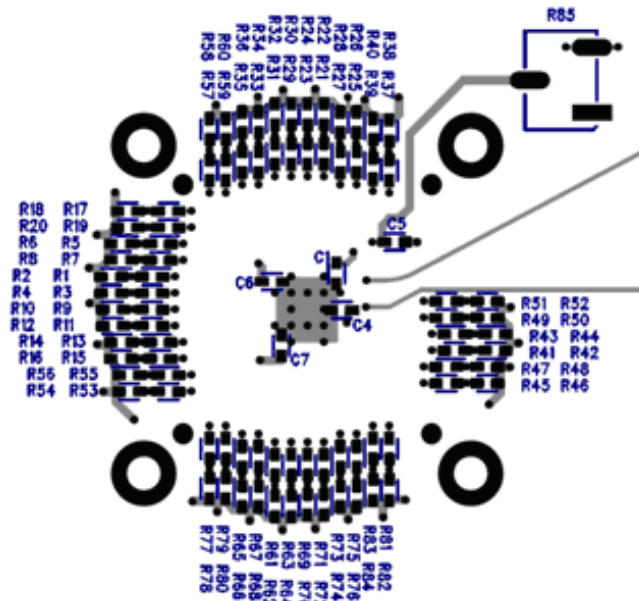

Figure 3. Back D.U.T. Area Detail
3. Back D.U.T. area detail: (See Figure 3) Odd numbered resistors R17 to R81 are populated for 1X load. Even numbered resistors are not populated. The even numbered resistors may be repopulated with 50  $\Omega$  (to GND) components to convert the board to 2X load use with 50  $\Omega$  scope input impedance loading (presents a 25  $\Omega$  parallel load to the device outputs). Even numbered “series shorting” resistors R17 to R81 are populated zero ohm value. These may be repopulated with a series resistor value to improve signal integrity. Components C1, C4, C5, C6, and C7 are 0.01  $\mu$ F bypass caps.